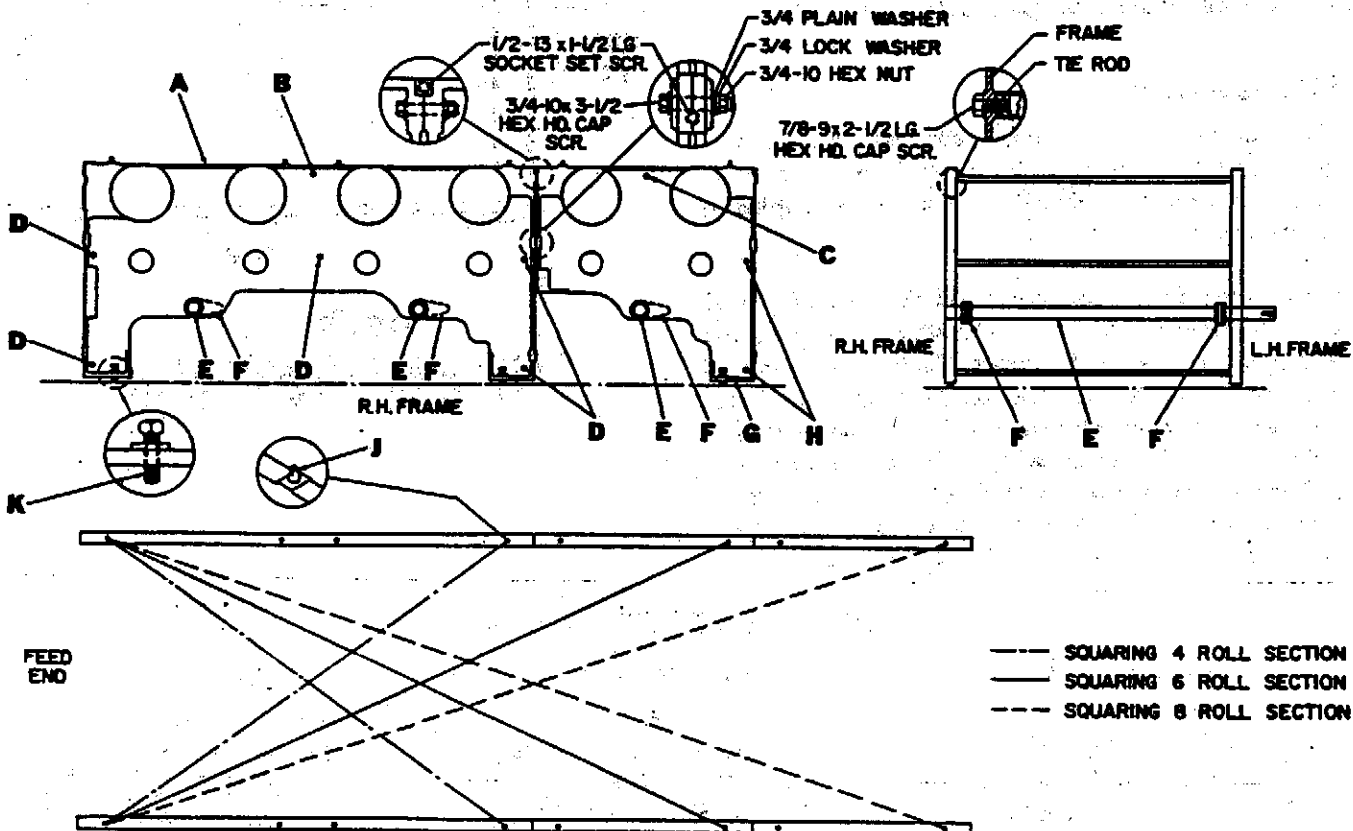

FIGURE 6 - ASSEMBLING, SQUARING AND LEVELING FRAME
See figure 6.
Before the chests and rolls are installed, the frame must be square. Use the studs (J) on the top of the frame and measure diagonally as shown in figure 6. When the diagonal measurements are equal, the frames are square.
The rolls are weighed prior to shipment and the weight of each roll is stamped on the roll. The heaviest roll should be installed in no. 1 position (feed end), the second heaviest roll should be installed in no. 2 position, the third heaviest roll in no. 3 position, etc. The rolls should be installed with the flanged drive gudgeon on the right side, and positioned WITH THE PIPE PLUG ON THE LEFT END OF THE ROLL AT THE TOP OF THE VERTICAL CENTER LINE. In this way, the keyway on the right end is in the vertical position for the installation of the universal drive shaft. Install the tie-rods (Items B and C, figure 6).